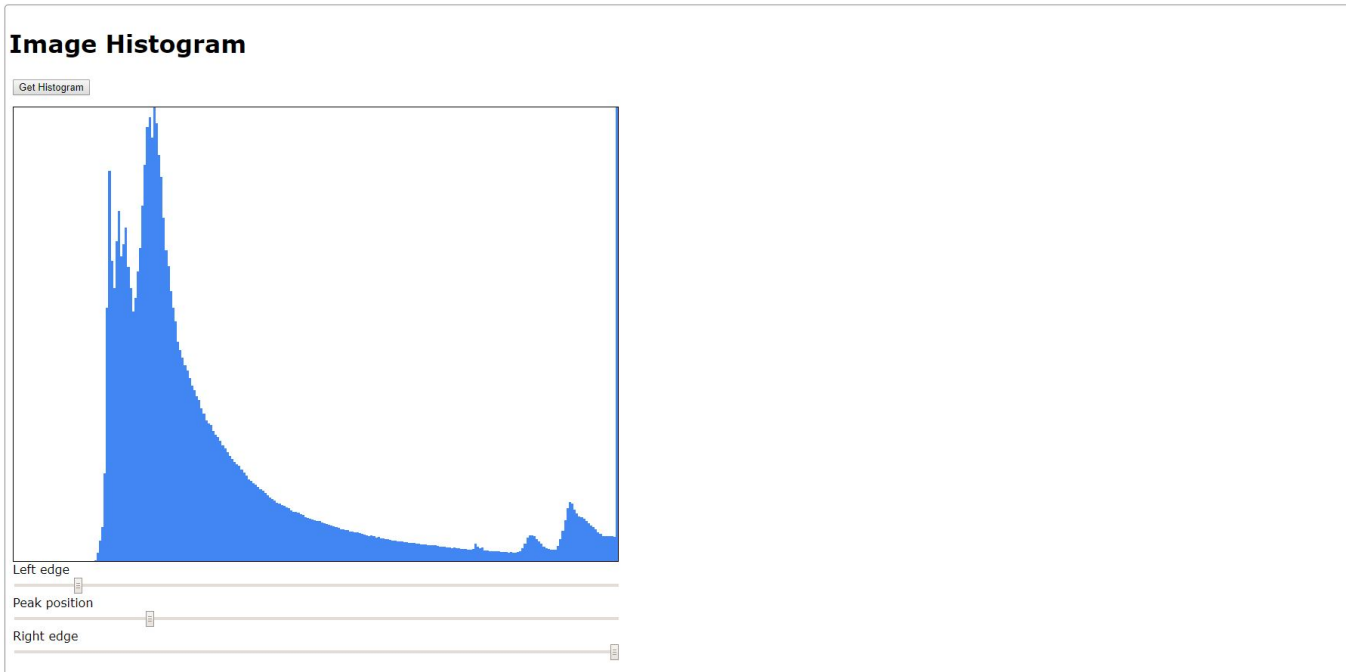

Figure 50- Image Histogram from x-ray image processing software
- 12. Select **Get Histogram** below the Image Histogram header (**Figure 50**).